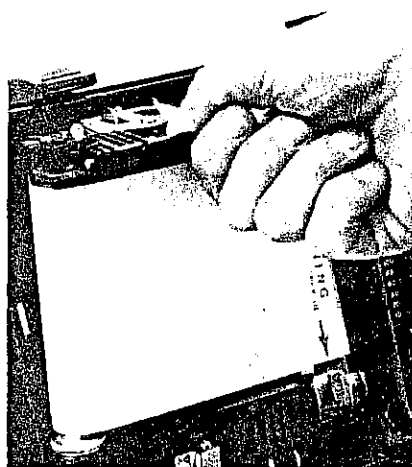

Figure 25
2. Release both catches on the top of the case. Pull out and down on the top of the case front to expose the stylus belt. (See Figure 25.)
4. Pull out and down on the tab at the top center of the platen assembly to expose the paper spools. (See Figure 25.)